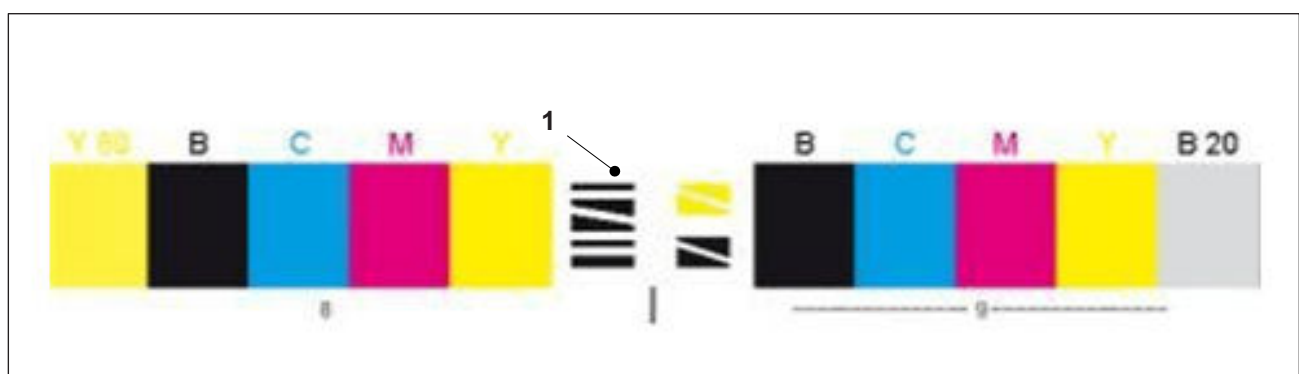

Fig. 32 Position mark, Prinect Inpress Control
- For automatic detection of the quality control strip, position marks (Fig. 32/1) are located on the strip. It is vital that these position marks are in place! Otherwise, the quality control strip will not be found.